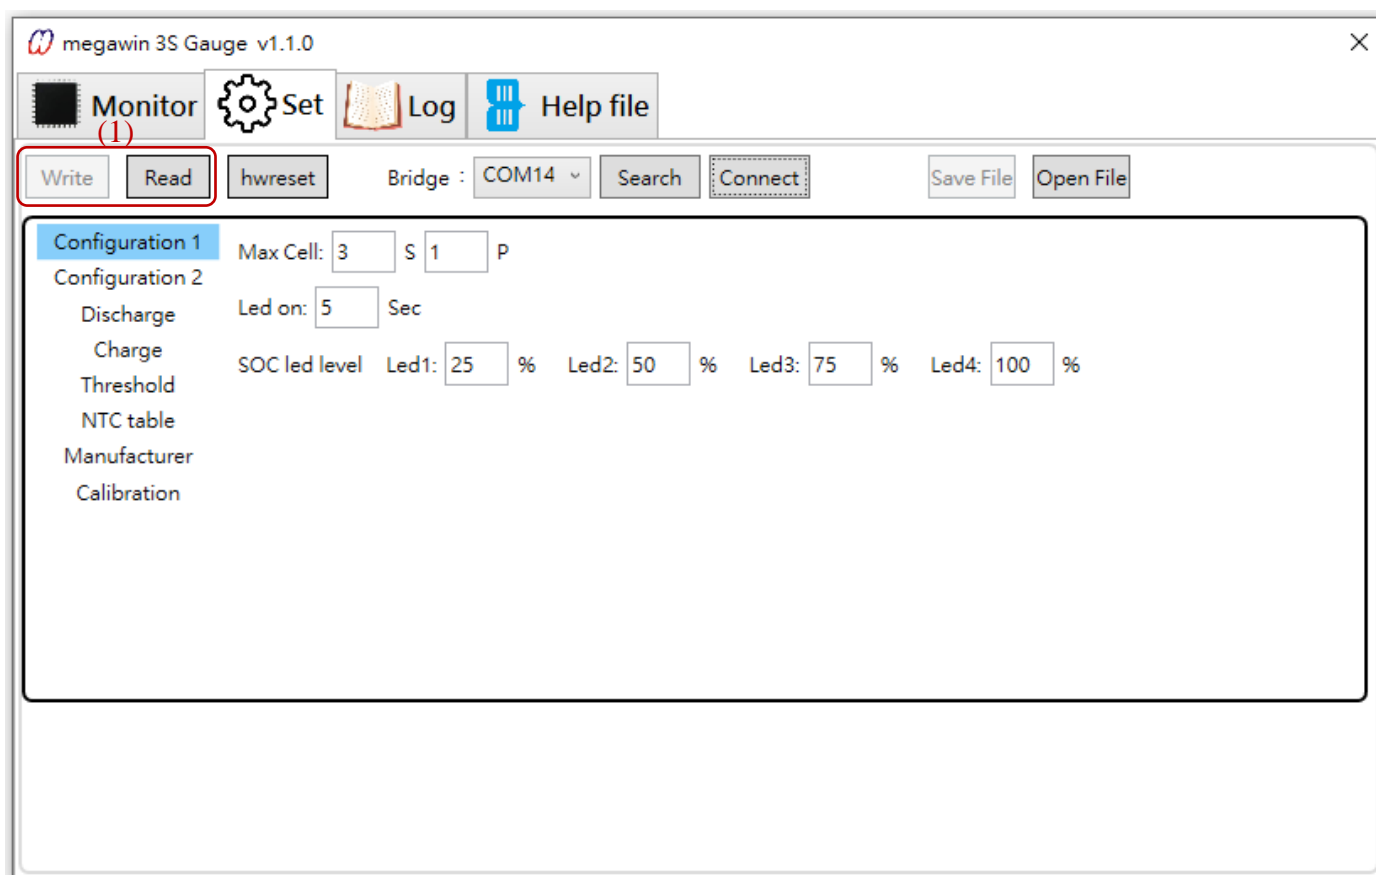

Figure 2-5 Access Block
As shown in Figure 2-5 (1), this block is responsible for writing and reading system parameters inside the MCU. When the Read button is selected, all system parameters will be read from the MCU to the GUI (selecting the options in the block will display the read contents), and until the message box of "Read Complete" appears, which means that the data has been read.